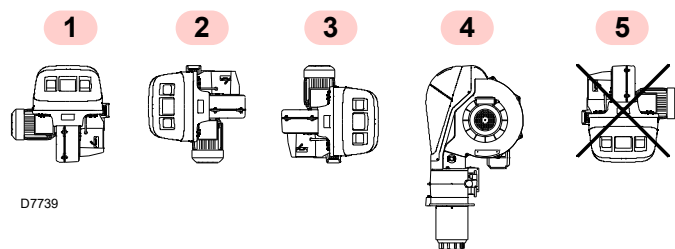

Fig. 8
- The burner is set up to operate only in positions **1**, **2**, **3** and **4** (Fig. 8).